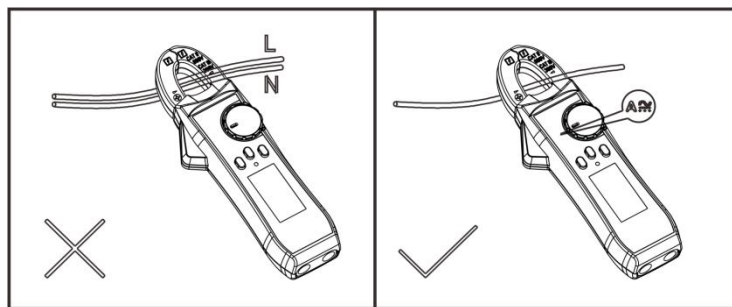

Figure 4
2. Measurement of AC/ DC Current (Figure 4 and 5)